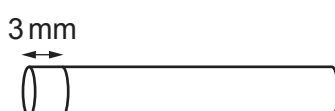

Fig. 1.1
Step 3 Put the potato cylinders onto a white tile and cut each potato cylinder into 3 mm discs, as shown in Fig. 1.1. You will need 30 potato discs.